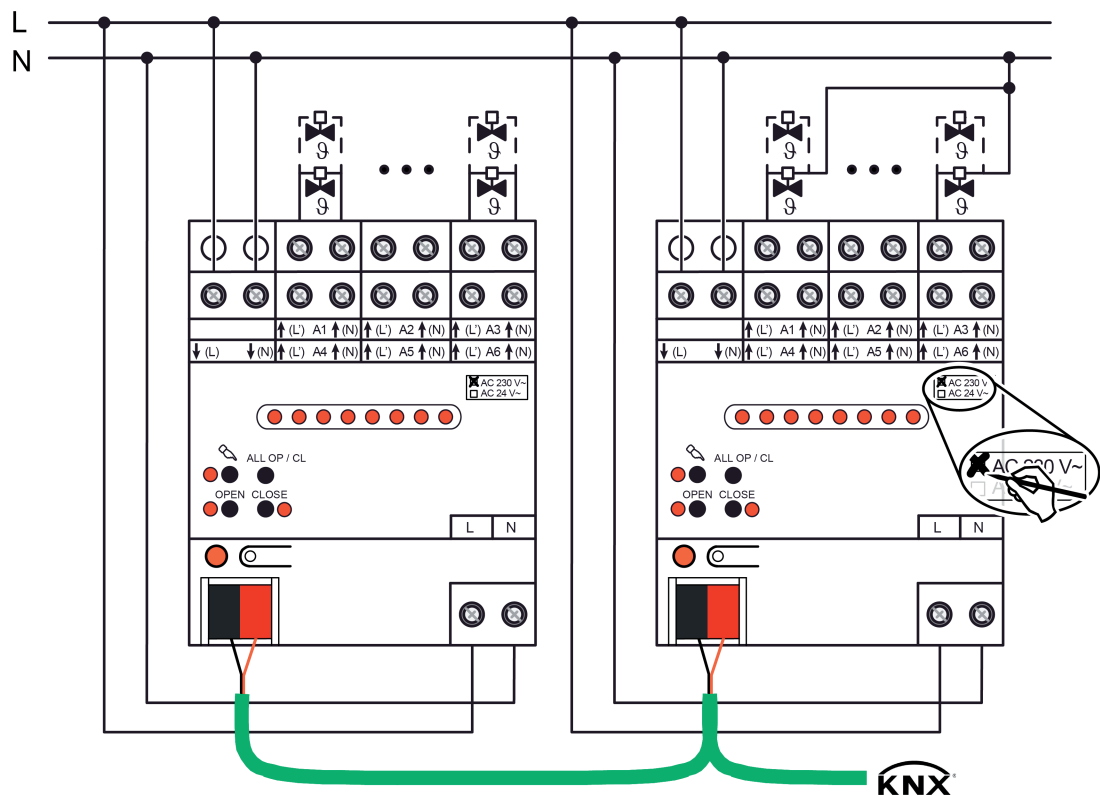

Figure 2: Connection for AC 230 V actuators (connection examples)
- Connect the AC 230 V valve drives according to the connection diagram (figure 2). The neutral conductors of the actuators can either be connected directly to the N terminals of the outputs of the heating actuator (left-hand connection example) or, alternatively, jointly with a suitable N potential (e.g. N conductor terminal in the distributor) (right-hand connection example). It is not absolutely necessary to connect the neutral conductor of the actuators directly to the actuator.
- Connect the supply (mains voltage AC 230 V) for the actuators to the terminals ↓(L) and ↓(N) (1).
- Connecting the mains voltage to the terminals L N (5).